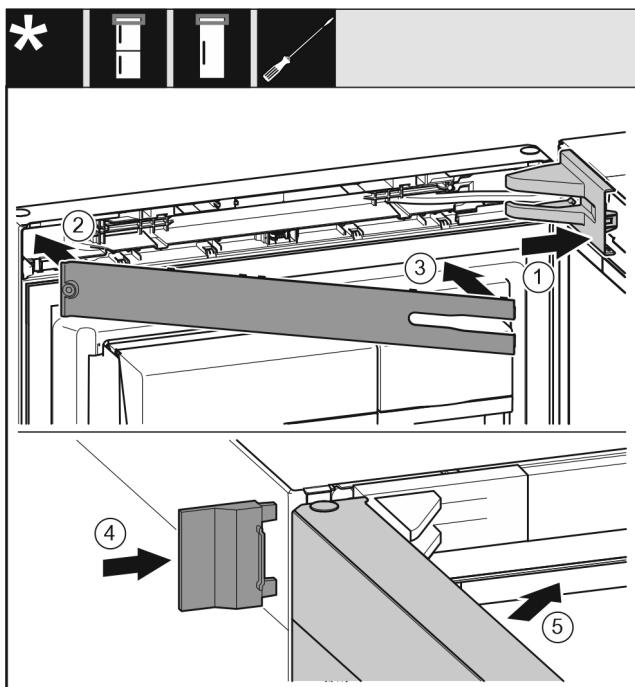

Fig. 57
- Position the swap bearing block cover *Fig. 57 (1)* and snap it in. You may need to push it carefully apart.
- Attach the cover *Fig. 57 (2)*.
- Swivel in the faceplate *Fig. 57 (3)* and snap it on.
- Slide on the outer cover *Fig. 57 (4)*.
- Close the top door *Fig. 57 (5)*.